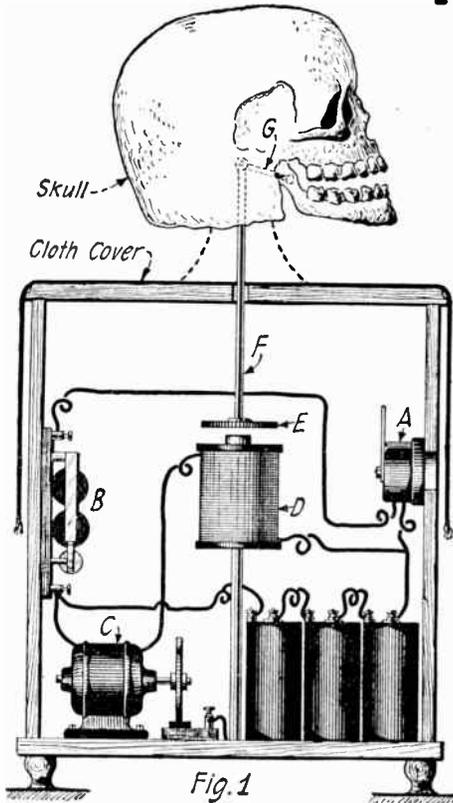
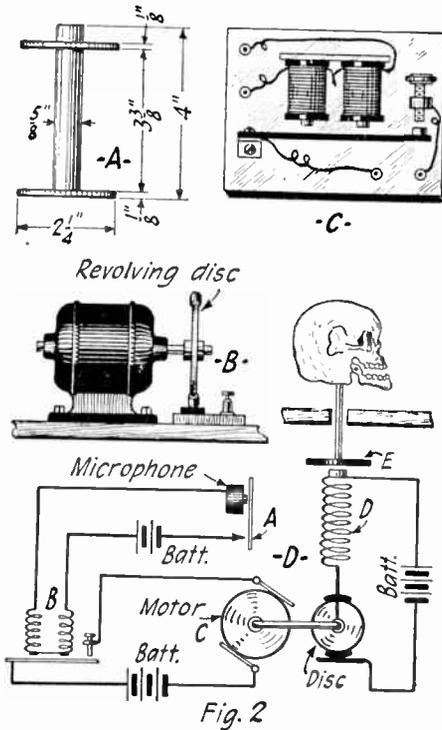

Fig. 1
Fig. 2
Fig. 1 shows the general layout of this rather startling experiment, the skull grimly opening and shutting its jaws and performing the other motions as described. Further details are given in Figs. 2 and 3, the whole thing constituting an interesting if somewhat ghastly display. The motor revolving a disc, operates the circuit breaker, affecting the magnet periodically. A relay is employed to give good actuating current.
The general principles upon which this trick works are as follows: A sensitive microphone (A), Fig. 1, of the carbon ball type, is connected in circuit with a relay (B), see also Fig. 2 (D), and its armature circuit is linked with a motor (C) and battery. Upon the motor shaft a proper circuit breaker is placed and the latter is connected in series with a powerful electromagnet (D), actuating an iron armature (E), which is connected to a rod (F), operating lever (G), which is fastened to the (balanced) lower jaw of the skull, as perceived. Now, when you speak or produce any sounds near the instrument, the microphone will be disturbed, operating the relay, which will connect and work the motor, and in turn the circuit breaker. Consequently the electromagnet (D) is put in operation and the result is that the jaw is pulled up by the action of the rod (F) actuated by the magnet. When the current is released the slightly overbalanced weight of the jaw will cause it to drop back. The arrangement herewith shown will only cause a double rap of the jaw, but the number of them may be varied by increasing the
The constructional details of the individual apparatus are shown in Fig. 2. The electromagnet (A) is made to size, as perceived, and is fully wound with No. 22 B. & S. copper magnet wire. The circuit breaker (B) consists of a disc revolved by a motor and which makes contact with a brass strip located at the bottom of the base, as depicted. The relay (C) is made of two bell magnets actuating an iron armature carrying a contact point which contacts upon a second point, as seen. Connections for the various parts are shown in drawing (D). Practically any kind of relay can be advantageously used. The transmitter is of the supersensitive type and which can readily be made by following the instructions given in the November, 1915, issue of this journal on page 333 in an article entitled "How to Build a Dictaphone." After these various instruments are made they should be properly arranged as portrayed in Fig. 1 and connected as shown in (D), Fig. 2. The instrument is now finished and ready to be used. The only thing necessary to operate the jaw of the skull is to talk or blow a whistle, which will affect the transmitter and in turn the jaw, thereby caus-